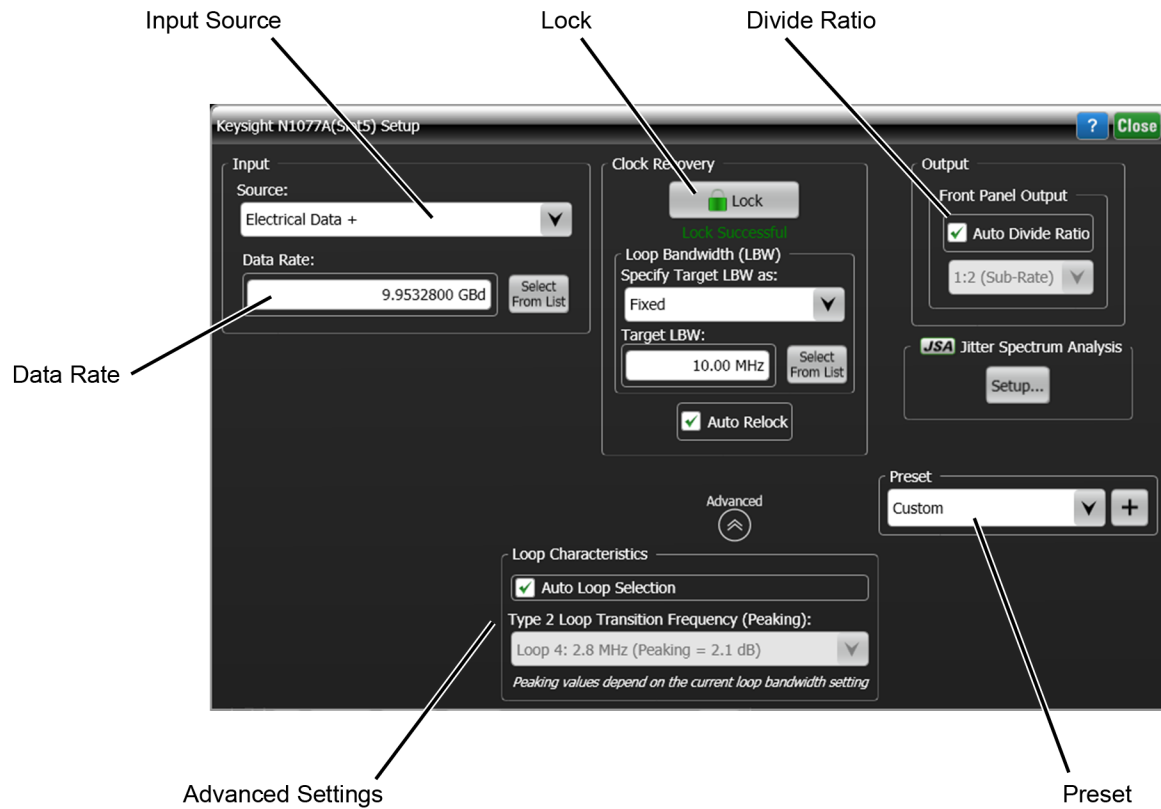

Figure 23. Clock Recovery Setup Dialog Box
4. Click **Setup** > **Modules** > **(Slot 6): Clock Recovery**. The dialog box shown Figure 23 is displayed.